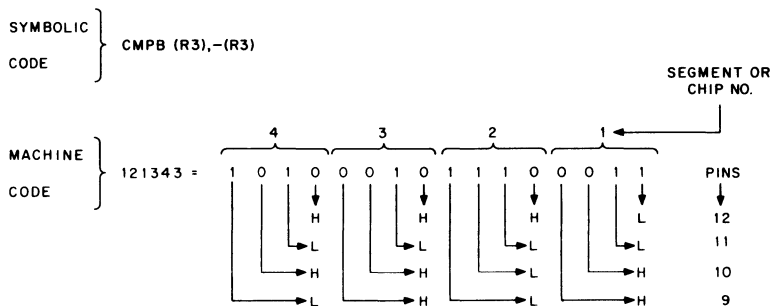

Figure 18-1 MRV11-AA Data Format
**Word Format** — Each PROM word, when read by the processor, is stored in four 4-bit slices in four separate PROMs. Each word is simultaneously addressed and produces its respective 4-bit portion of the 16-bit word that is read. For example, consider the CMPB instruction. Its machine code, using the addressing modes shown, is 121348 or 10100010111000112. The binary bits are stored in PROMs numbered from 1 to 4. Output pins, as indicated, will yield the read data bits for this instruction when addressed. The MRV11-AA data format is illustrated in Figure 18-1.